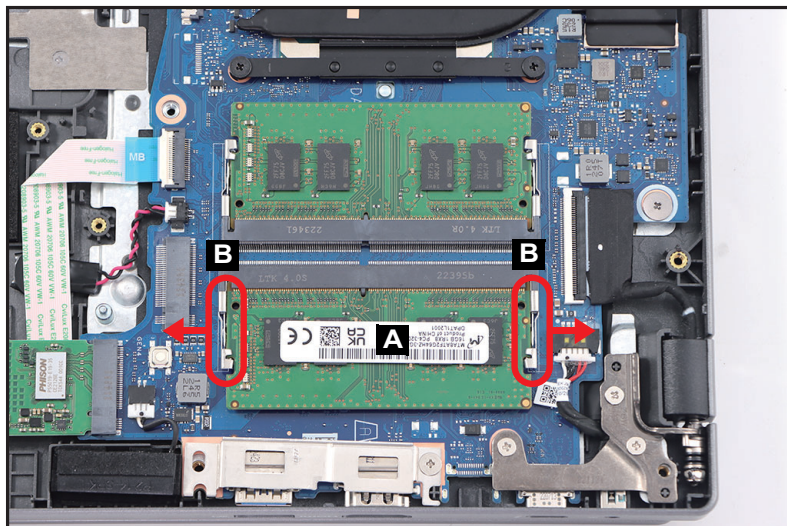

Figure 1-16. DIMM Module Removal
1. Find the DIMM module (A) in the system (Figure 1-16).
2. Push the DIMM module clips (B) outwards (Figure 1-16).